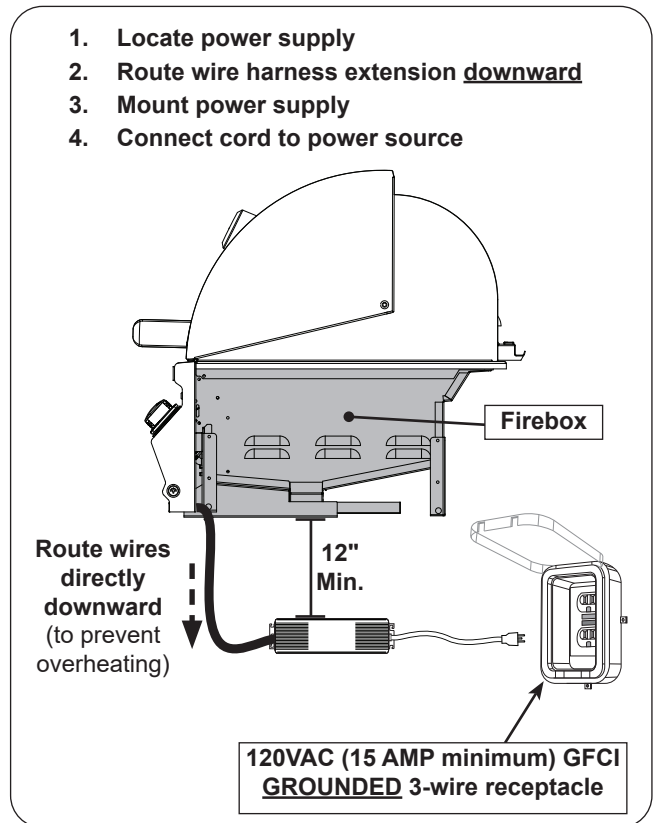

Fig. 29-1 Electrical installation
1. Route the power supply below the control panel and directly downward. This will prevent overheating. **DO NOT** route the harness below the unit firebox. See Fig. 29-1.
- located at least **12"** below the bottom of the unit (see Fig. 29-1)